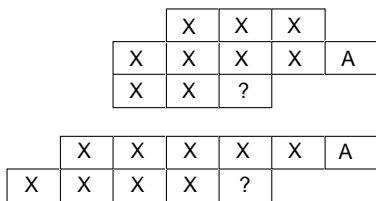

Figure 1 Template (X, A)
- (1) Coding algorithm
- (2) Context
- 2- or 3-line of 10 pixel template (See Figure 1.)